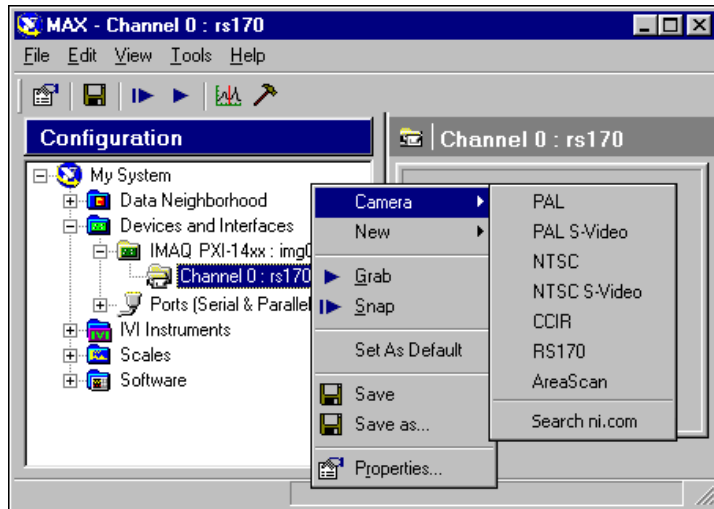

Figure C-3. Choosing the Appropriate Camera
8. Choose the appropriate camera type from the list. The types of cameras available vary according to the IMAQ device, as shown in Figure C-3.